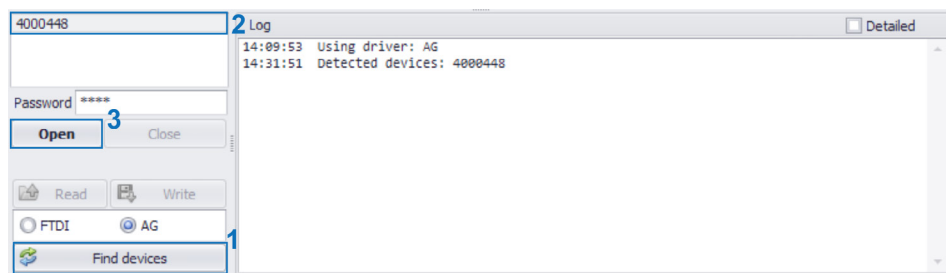

Fig.14. Connect the display to PC.
- on the DisplayConfigure software, press the “Find devices” button (Fig.14, i.1) to search for the connected devices;
- select serial number of the required device in the list of available devices (Fig.14, i.2) and press the «Open» button (Fig.14, i.3). If the option «Read configuration automatically» is enabled, the device settings will be read in the application. If the settings haven't been read automatically, press the «Read» button;